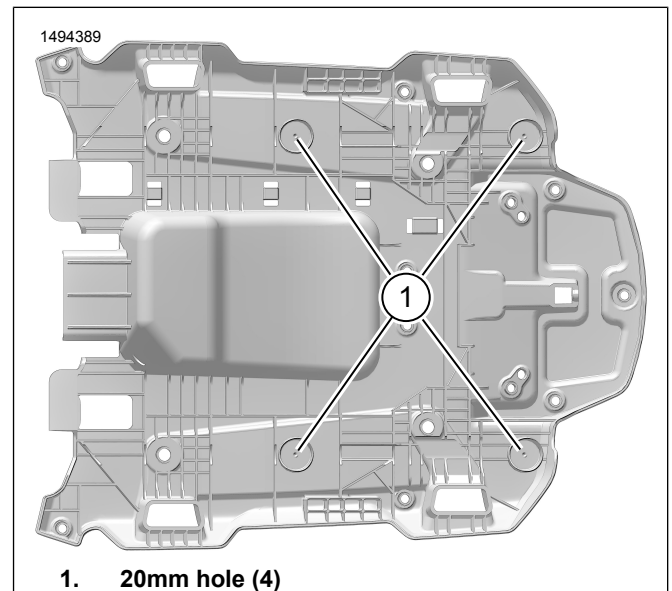

Figure 5. Handhold Base Holes
6. See Figure 5. Drill clearance holes (1).